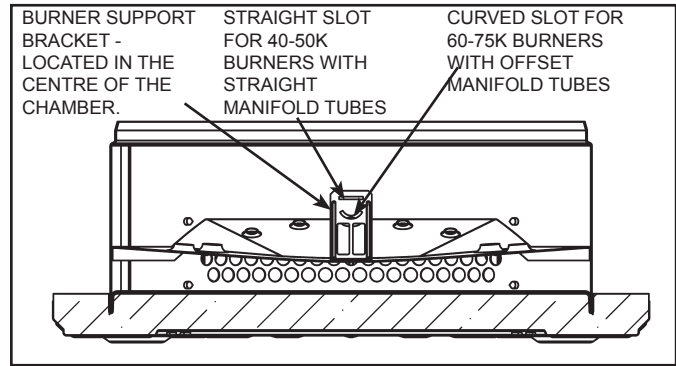

Figure 12. Manifold/Burner Assembly
1. Insert the manifold/burner assembly in the burner chamber compartment, making sure that the tip of burner manifold tab engages in the proper slot of the bracket. See *Figure 12* (page 12). The tip end of the burner manifold **MUST** be placed in the slotted portion under the condensation pan to obtain proper installation.